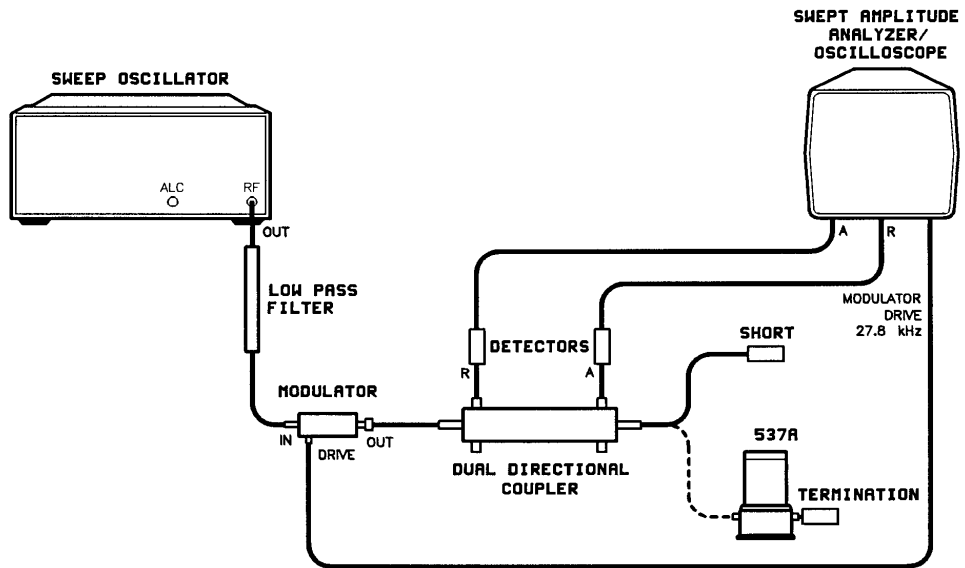

Figure 2 Return Loss Test Setup
As shown in Figure 2 on page 4, two detectors are connected together with a modulator, swept amplitude analyzer, and a dual directional coupler in a reflectometer test setup. The reflectometer is calibrated using a short. The 537A coaxial frequency meter under test is connected and the return measured.
1. Connect the equipment as shown in Figure 2.